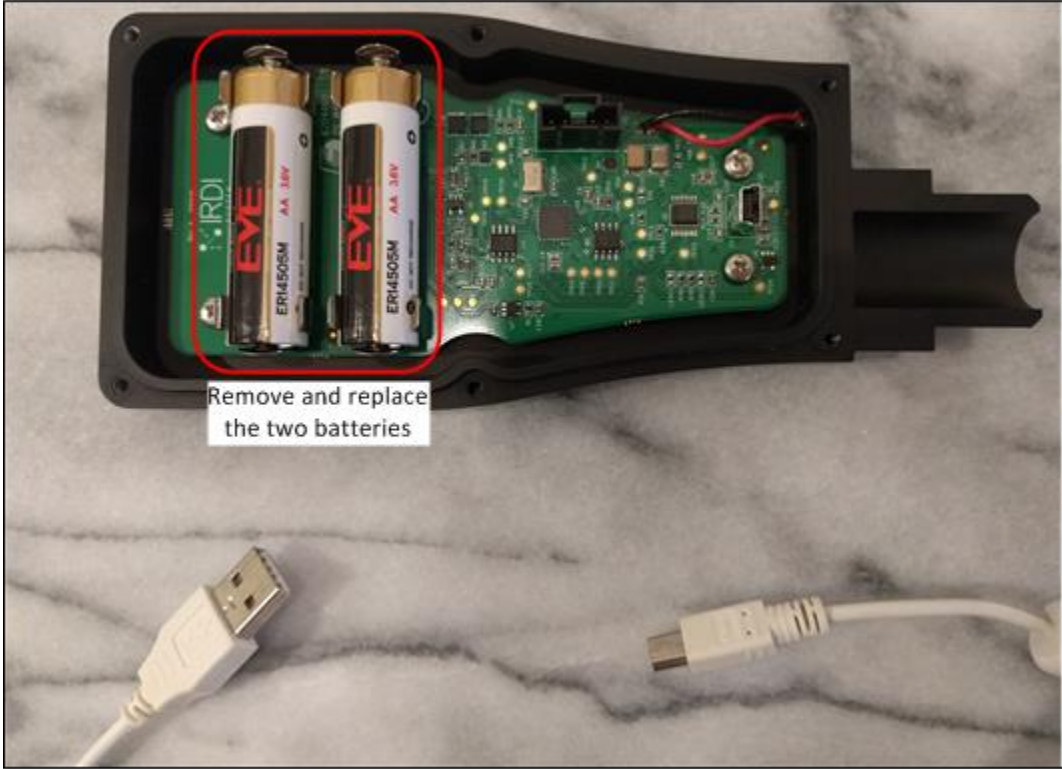

FIGURE 4-3 HHT BATTERIES – LOCATION IN HHT
STEP 2	Remove the old batteries – see Figure 4-3.